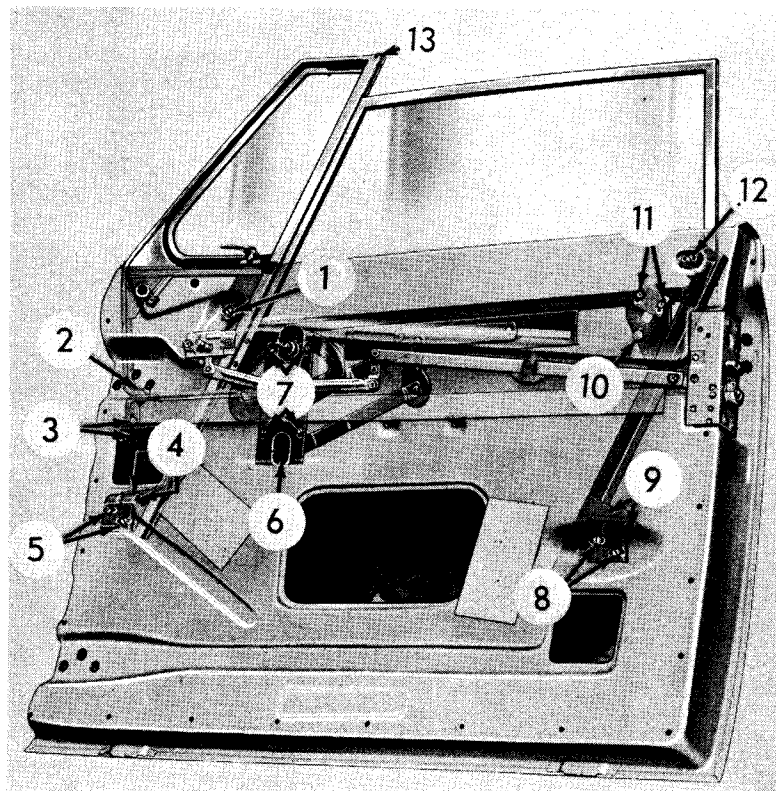

FIG. 2
Adjustments are made by means of elongated holes in the ventilator assembly, in the brackets, and in the door panel. Figure 2 illustrates the points of adjustments. It may be necessary to enlarge the holes or shim out the brackets if additional adjustment is required to properly position the ventilator assembly.
To move the assembly forward or rearward, loosen the ventilator frame-to-door panel screw (1, Fig. 2), the ventilator frame-to-front bracket nut (2), the two ventilator frame rear bracket-to-door panel screws (5). Also, loosen the window assembly rear guide screws (8 and 12) to allow the door window to shift with the ventilator assembly. Then shift the ventilator frame forward or rearward as required, so that the front weatherseal lip comes in easy contact with the ventilator frame the full length of the frame. Do not force the frame against the weatherseal. Tighten the retaining screws and nut.
To correct for forward tilt, top too far forward, loosen the ventilator frame-to-door panel screw (1, Fig. 2), the two rear bracket-to-door panel screws (5), the upper and lower rear guide screws (8 and 12) and remove the ventilator frame-to-front bracket nut (2). Tilt the assembly rearward as required, while at the same time shifting the assembly forward to properly position it against the front weatherseal; then tighten the screws (5, 8, 1, and 12) securely. Loosen the two ventilator frame front bracket-to-door face cap screws (3), and shift the bracket upward, cornering the bracket against the door face and the ventilator frame. Tighten the cap screws (3), install the nut (2) that holds the ventilator frame to the front bracket and tighten securely.
The height of the assembly is adjusted by raising or lowering the ventilator frame front and rear brackets on the bracket-to-door panel screws. Loosen screws (3 and 5, Fig. 2), the ventilator frame-to-door panel screw (1), and move the assembly as required. The inside edge of the ventilator frame should cushion against the lip of the upper weatherseal. Do not attempt to position the top of the ventilator frame against the upper weatherseal for this may cause the upper pivot bracket to bind against and damage the lip of the upper weatherseal retainer gasket. When lowering the assembly be sure that the lower ventilator weatherstrip is not pulled away from the top of the door. In adjusting the ventilator frame assem-
If the ventilator frame has an inward or outward tilt, the assembly may be adjusted by shifting the lower end of the ventilator frame on the rear bracket. Loosen the ventilator frame-to-rear bracket cap screws (4, Fig. 2) and the door window rear guide-to-bracket screws (9). Move the ventilator frame on the bracket as required to correct the tilt condition. Then move the door window rear guide on the bracket to maintain the alignment between the ventilator assembly and the door window. If the assembly has an outward tilt, make sure that the upper weatherseal is not too far outward and holding the assembly out of position.
The upward travel of the door window is controlled by two stops (13 and 10, Fig. 2): one at the top end of the ventilator frame and the other behind the door inner panel in the upper rear corner of the door. The front stop (13) in the ventilator frame is not adjustable and actually limits the travel. The rear stop (10) prevents movement of the rear of the window after the window contacts the front stop and is adjusted so that the window contacts both stops at the same time.
To adjust the rear stop (10, Fig. 2), the garnish moulding must be removed and the rear edge of the trim panel pulled away from the door. Roll the window up until the window frame just contacts the front stop. Then loosen